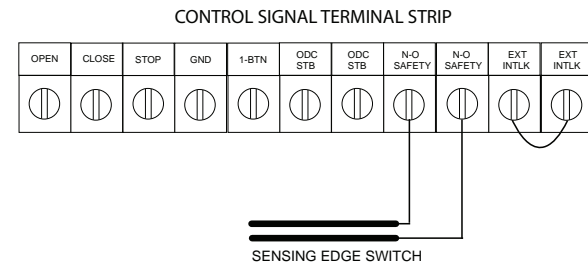

Figure 13
- 6) Connect to terminal strip using N-O Safety inputs. See **Fig. 13**.